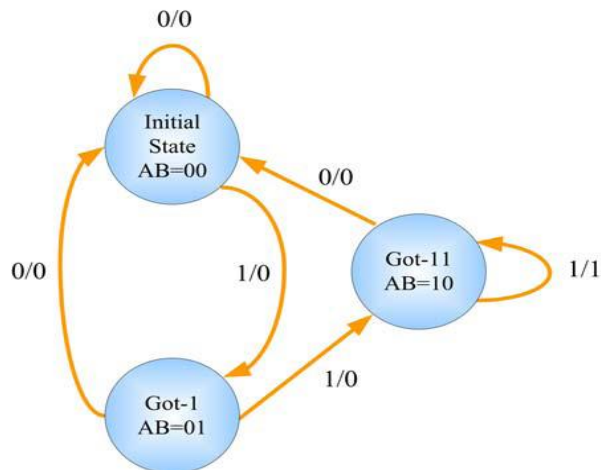

Figure 4: Mealy State Machine for '111' Sequence Detector
- The Mealy machine state diagram is shown in Figure 4.